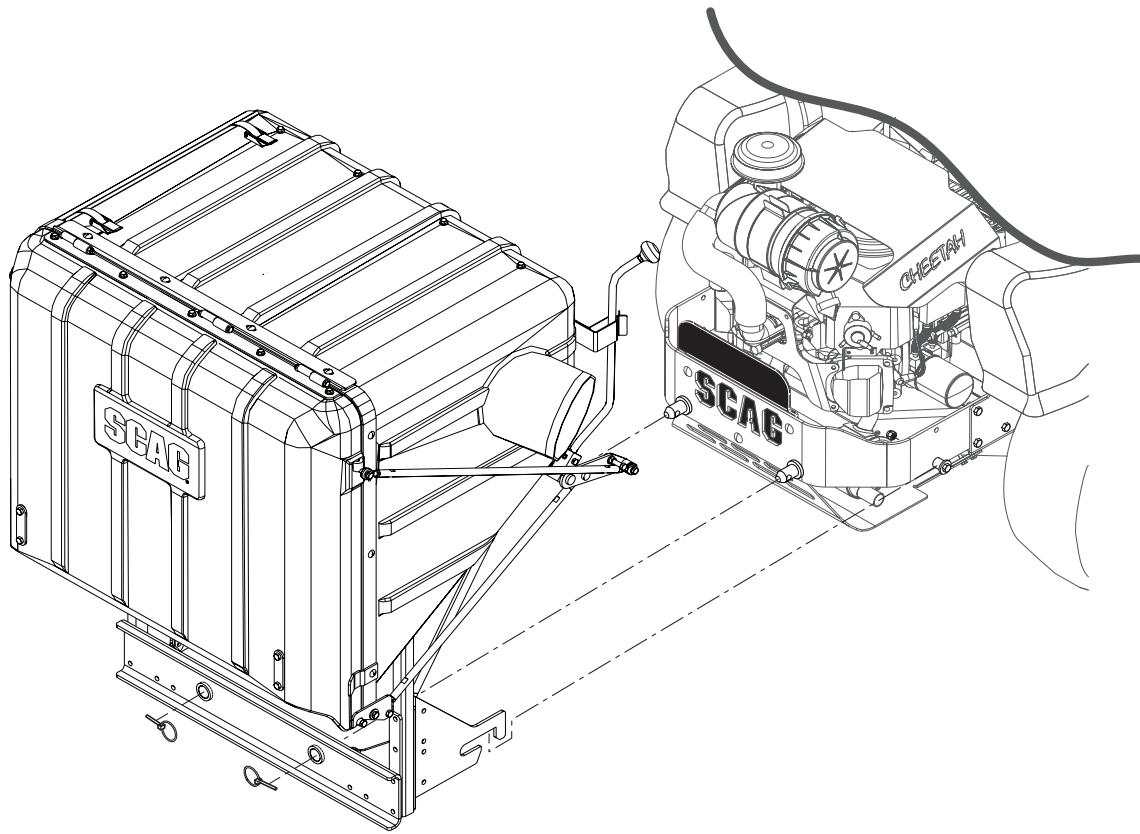

Figure 2-8. Hopper Installation
16. Install the mounting pins and spacers on to the rear of the machine. Secure using EIGHT (8) 3/8-16 x 1" hex head bolts, and six (6) 3/8-16 elastic stop nuts. See Figure 2-8.
17. With help from an assistant, install the hopper assembly to the machine and secure with the ring pins. See Figure 2-8.